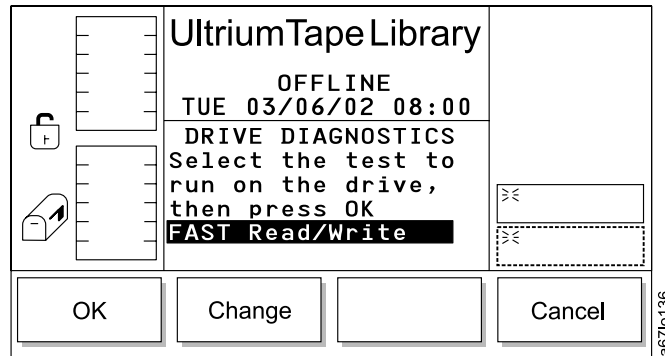

Figure 192. Diagnostics Dialog
- If **Diags** is selected, the Diagnostics Dialog displays (see Figure 192 on page 149).